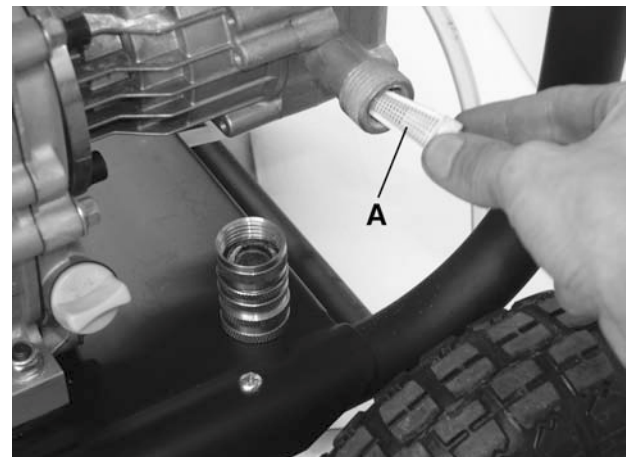

Figure 13
This pressure washer is equipped with a water inlet screen (A) Fig.13. This water screen must be kept clean at all times or else it will restrict the water flow to the pressure washer and may damage the pump. Remove the quick connect coupling from the water inlet, remove and clean screen. Never operate this pressure washer without the water inlet screen in place.